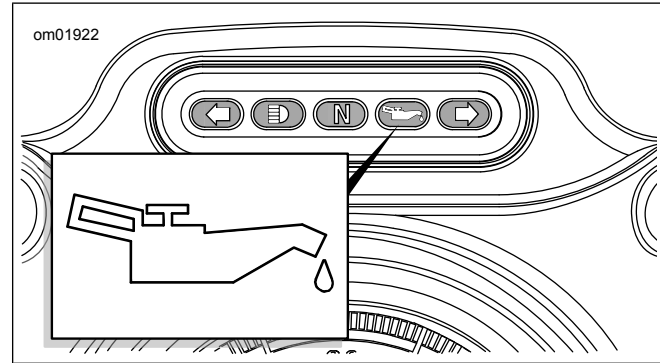

Figure 45. Oil Pressure Indicator
3. See Figure 45. Verify oil pressure.